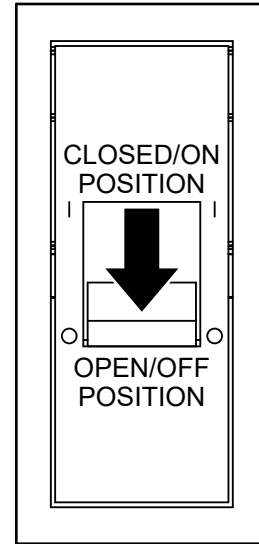

Figure 65. Main Circuit Breaker (Open/OFF)
5. Place the **main circuit breaker** in the **OPEN (OFF)** position. See Figure 65.